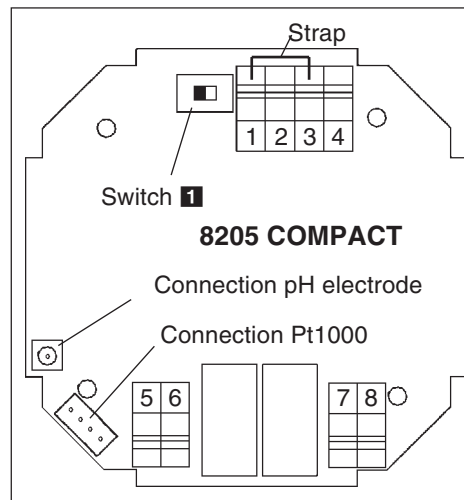

Fig. 3.8 Connection of 8205 with relays
Remove cover, pull cable through PG 13.5 and wire according to pin assignment (Fig. 3.8).
If the 4-20 mA output is used, remove the strap 1-3 (cf Fig 3.8).
**Note:** PLC-connection. Depending on the PLC-version, the switch **1** on the circuit board must be put to position A or B (see Fig.3.8 and 3.9).
**In this case remove the strap (see Fig. 3.8).**